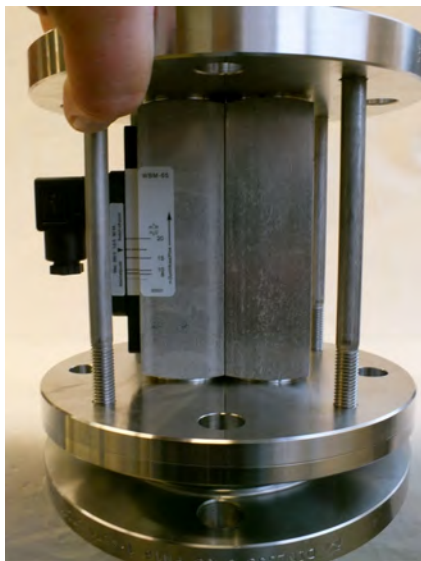

Fig. 11: Position device
2. ➤ Fit the device (Fig. 11) centered on the connecting flange and flange seal of the pipe line. Make sure that the flange seal is not displaced.